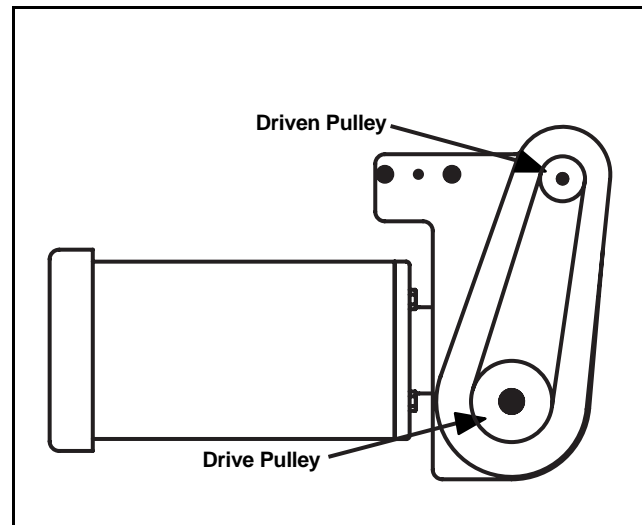

Figure 1
2. Determine the pulley kit ratio. Count the number of teeth on the drive and driven pulleys following figure 1. Using table 10, look up pulley ratio based on pulley combinations.